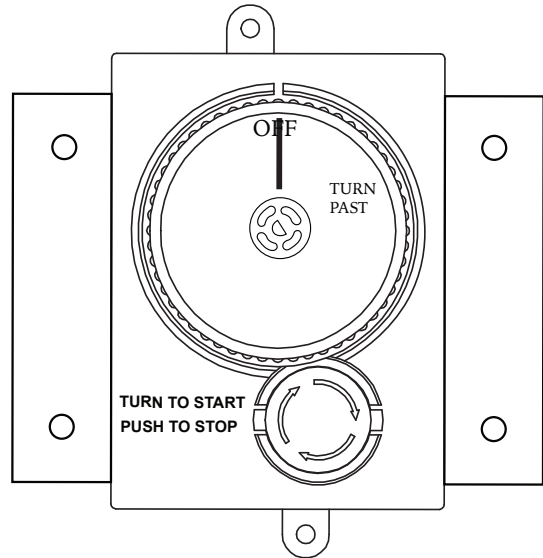

Fig. 2 Shows front view of ESTOP with mounting brackets installed.
Step 2: After brackets are installed, the ESTOP gas timer should look like Fig. 2.